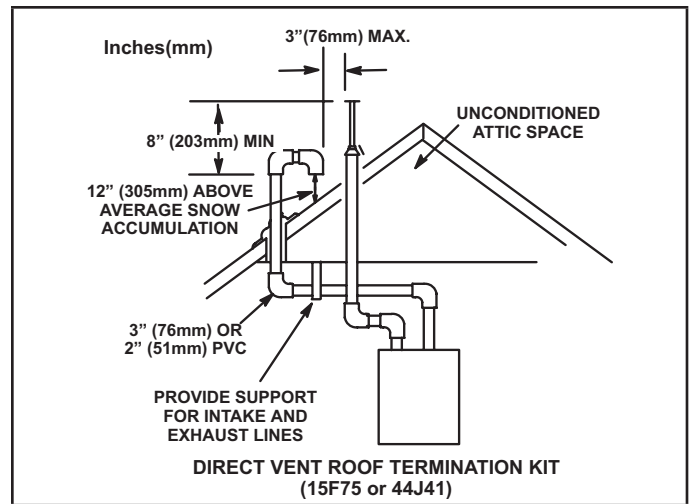

Figure 34
Intake and exhaust pipes may be routed either horizontally through an outside wall or vertically through the roof. In attic or closet installations, vertical termination through the roof is preferred. Figure 34 through Figure 41 shows typical terminations.
- 3 - On roof terminations, the intake piping should terminate straight down using two 90° elbows (See Figure 34).